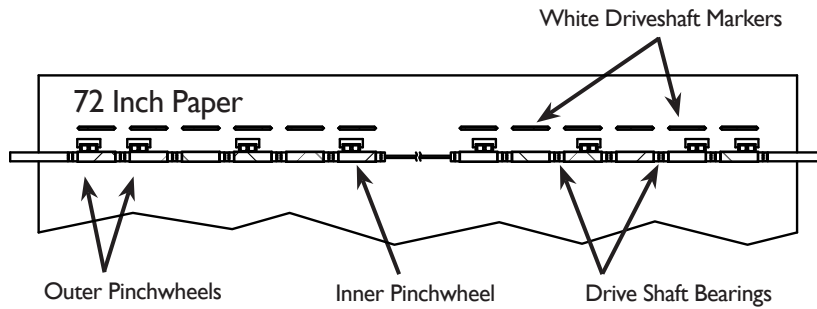

Figure 20. Positioning the pinchwheels for 72-in (183-cm) paper.
4. Move the pinchwheels into their proper positions over a tread and under the white markers on the traverse rail. (See *Figure 20*.) **Do not place pinchwheels over drive shaft bearings.**